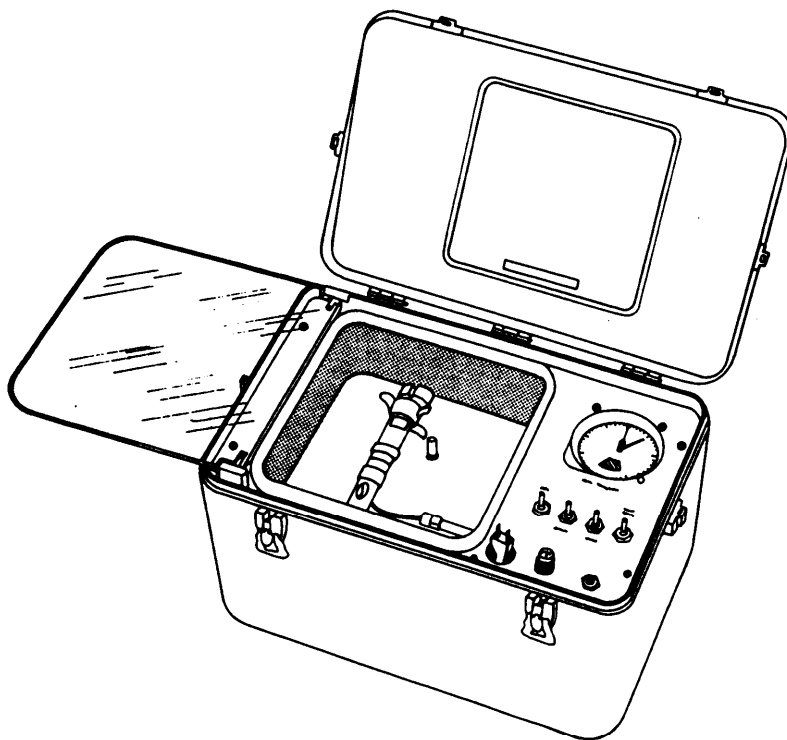

Figure 2-9.—Automatic parachute ripcord release test set.
The automatic parachute ripcord release test set, shown in figure 2-9, is designed to test the sensitivity of the automatic ripcord release to a preset pressure altitude through use of an aneroid blocking mechanism.
4. Install the barrel and receiver into the test chamber. Check your altimeter (fig. 2-9) for a setting of 29.92.